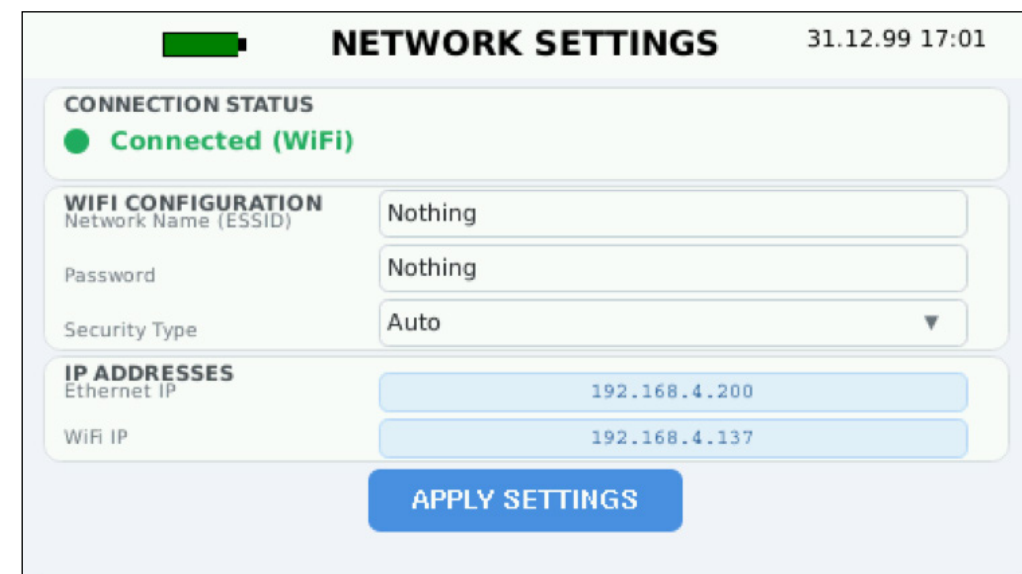

Figure 25
2. On the Network Settings screen (*Figure 25*), the current network status can be viewed, and the wireless (Wi-Fi) and wired (Ethernet) network connections on the AT-2040 may be configured.